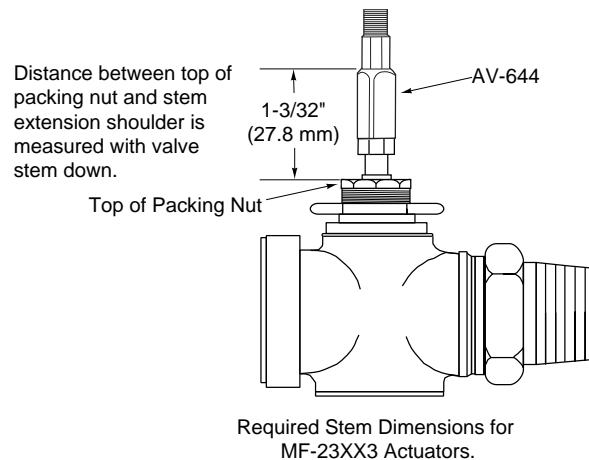

Figure-5 Valve and Stem Extension Assembly.
2. Remove the stem extension from the actuator. Screw the stem extension onto the valve stem. Adjust the stem extension of the selected actuator to the height specified for that model in Figure-5. This dimension is the distance from the top of the packing nut to the shoulder of the stem extension.